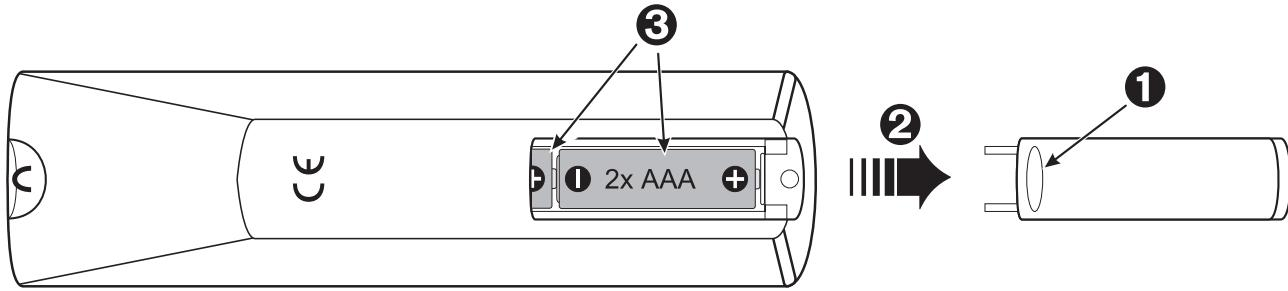

Figure 5-1. Replacing Batteries
1. Press the **locking button** to release door. (Figure 5-1)